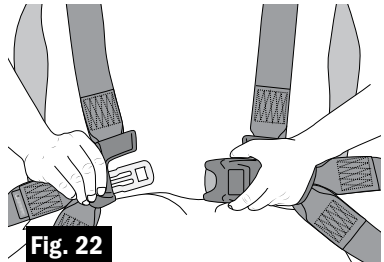

Fig. 22
- b. Insert tongue into buckle until you hear a **CLICK**. (Fig. 22)